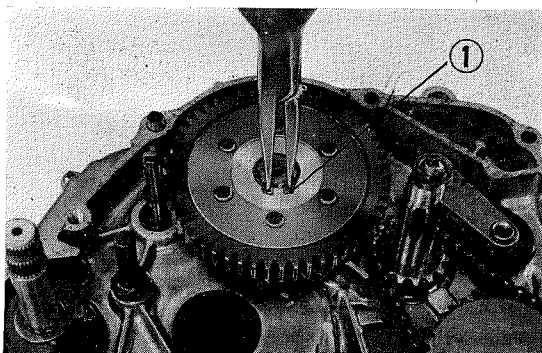

Fig. 43 ① 17mm. circlip
7. Remove 17 mm circlip to take off the primary driven gear. (Fig. 43)